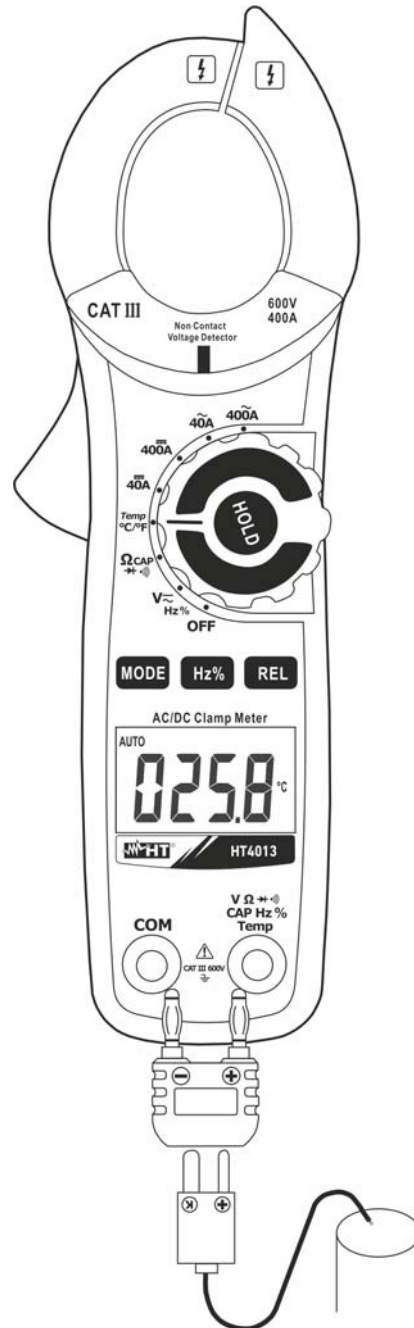

Fig. 8: Use of the clamp for temperature measurement
3. Insert the K wire probe provided into input terminal **V Ω → ← CAP Hz % Temp** and **COM** by means of the relevant adapter, respecting the polarity indicated in Fig. 8. The display shows the value of temperature.